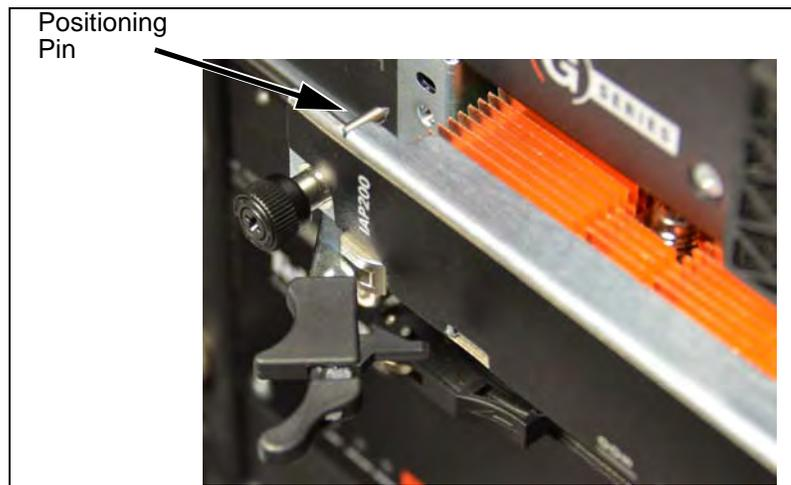

Figure 5.20 - IAP Alignment
3.	Guide the positioning pins of the blade until they are inserted in the positioning holes in the chassis (Figure 5.20).